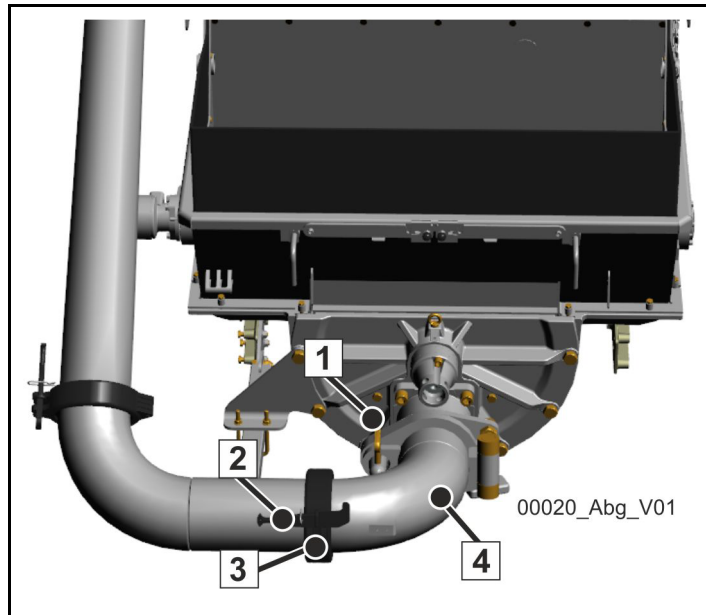

Fig. 335
- b) Remove the wedges (1+2) and the coupling (3) for truck-mounted concrete pumps.
- Swivel the outlet for the boom (4) to the side and secure with a wedge (1), (**Fig. 335**).